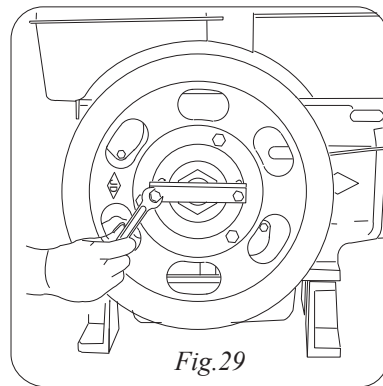

Fig.29
4. Pull out the flywheel by the puller. A hummer may be used to knock the center of the bridge of the puller if the flywheel is difficult to be pulled out (Fig.29).